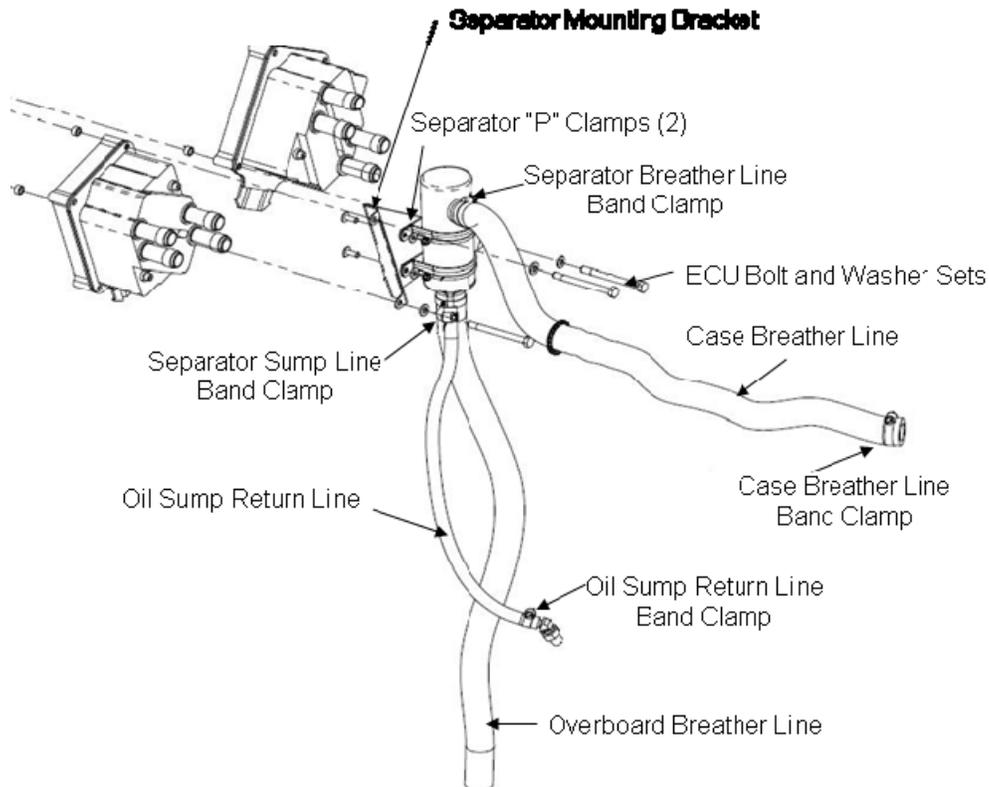

Figure 79-5 Air/Oil Separator Removal
3. Install the clamps and hoses from the separator as shown in Figure 79-5